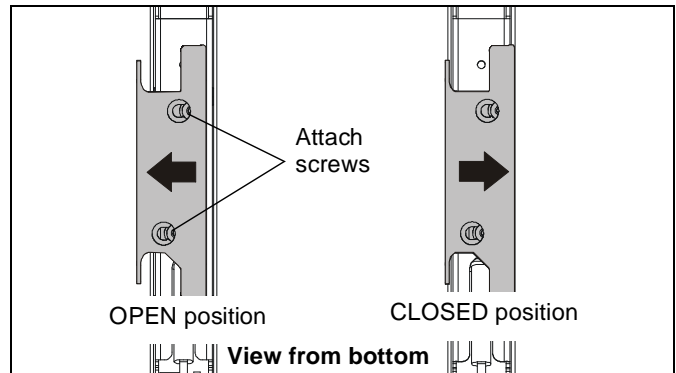

Figure 6
2. Open cable management bracket on upper portion of mount arm by sliding it towards edge of arm. (See Figure 6)